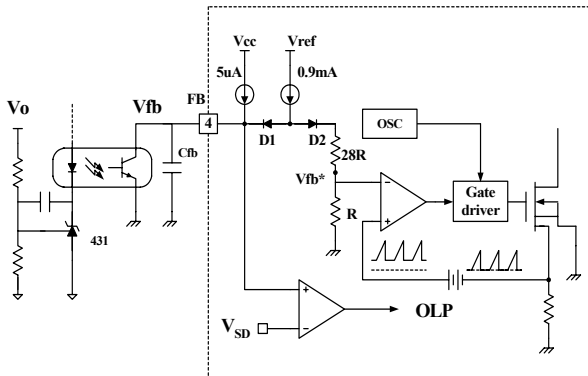

Figure 2. Pulse width modulation (PWM) circuit
**2. Feedback Control** : The FS6X1220R employs current mode control. The voltage of the feedback pin is compared with the current sense voltage for pulse width modulation (PWM). Figure 2 illustrates the simplified PWM block. The feedback voltage determines the peak drain current of the SenseFET. Usually opto-coupler along with TL431 are used to implement feedback network. The collector of the opto-coupler transistor is connected to feedback pin and the emitter is connected to the ground pin. When the voltage of the reference pin of TL431 exceeds the internal reference voltage of 2.5V, the opto-coupler diode current increases, pulling down the feedback voltage.
**3.1 Pulse-by-pulse current limit** : As shown in figure 2, the drain current of the power MOSFET is limited by the inverting input of PWM comparator (Vfb\*). Assuming that the 0.9mA current source flows only through the internal resistor (28R + R = 2.9k), the cathode voltage of diode D2 is about 2.6V. Since D1 is blocked when the feedback voltage (Vfb) exceeds 2.6V, the maximum voltage of the cathode of D2 is 2.6V. Therefore, the maximum value of Vfb\* is about 0.1V, which limits the peak value of the power MOSFET drain current.